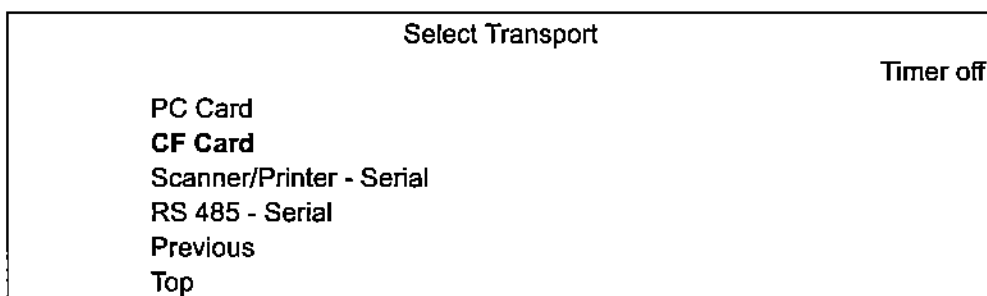

Figure F-3. Select Transport Menu
4. **Select the File Media Source** - see Figure F-3. The *Select Transport* menu displays. Use the **A** button (Down) to highlight *CF Card*, and select using the **C** button (Select/Action).